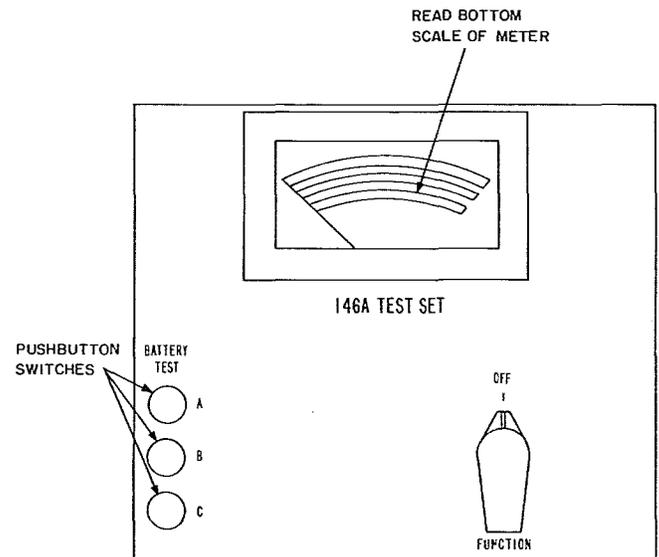

Fig. 5—Internal Battery Testing
- (1) Remove the top cover from the test set.
- (2) Remove all cords.
- (3) Refer to Fig. 5.